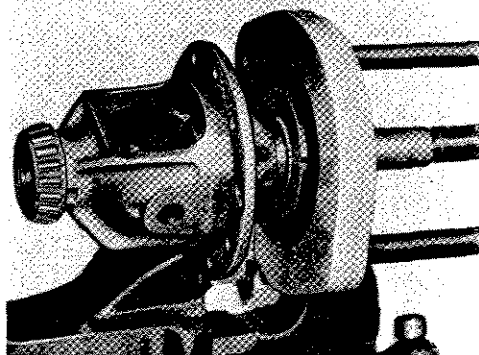

Fig. 16. Using Tool No. S.103 and Press No. S.4221A to remove differential bearings
Lift the differential unit from the axle casing and remove the bearings (7), Fig. 16, taking care not to mix them.